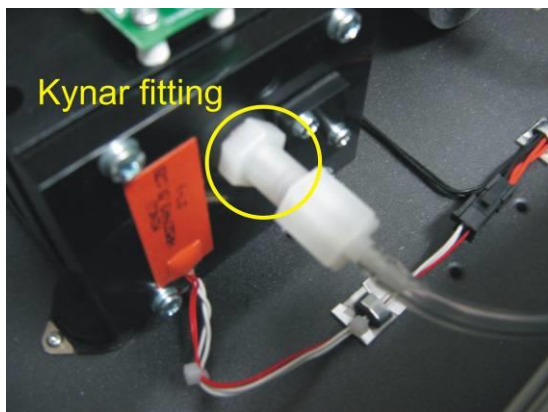

Figure 62 – Kynar fitting containing orifice and sintered filter
2. Disconnect the tubing from the measurement cell (refer to Figure 62).